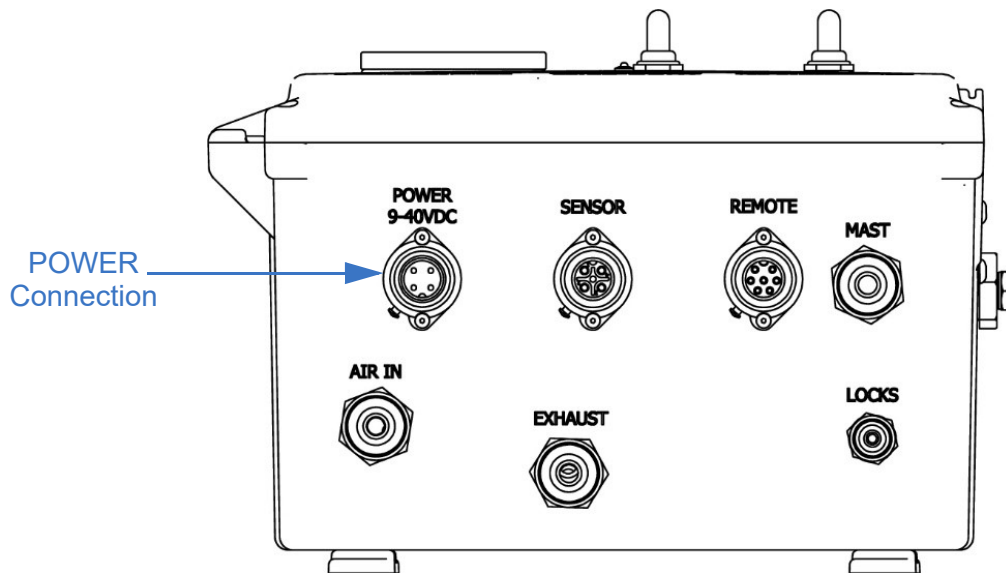

Figure 5-27 Control Box “POWER” Connection
1. Plug 20 gauge power cable (P/N: 5567501) into the “POWER” connection on the control box (Figure 5-27).